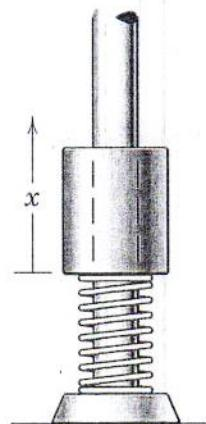

Fig. Q8
8. The 1.8 kg collar is released from rest against the light elastic spring, which has a stiffness of 1750 N/m and has been compressed a distance of 150 mm (Fig. Q8). Determine the acceleration  $a$  of the collar as a function of the vertical displacement  $x$  of the collar measured in meters from the point of release. Find the velocity  $v$  of the collar when  $x = 0.15 \text{ m}$ . Friction is negligible.